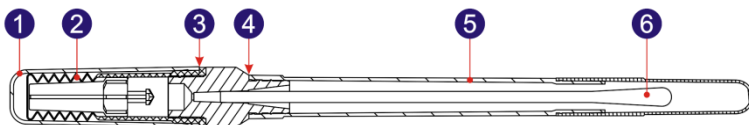

Fig 1.2 ATP Quickswab Structure Diagram
The structure diagram of the ATP Quickswab is as shown in figure 1.2.
- 2. Sampling:** Hold the joint port of the ATP Quickswab and unplug the cap at the unplug point, as shown in figure 1.2. Remove the test tube and pull out the pre-moistened swab tip. Keep 15 to 30 degrees angle of the swab tip and zigzag swab the sampling area, please remember to rotate the swab tip while swabbing to ensure the closely contact with the sampling area. (The sampling area should be around 10x10 cm² and it could be marked within the sampling card).